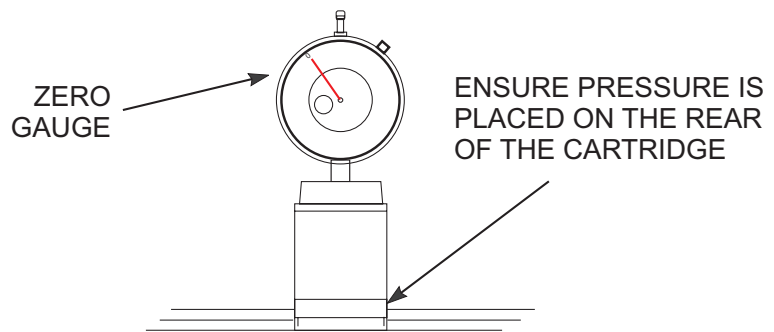

Figure 3-15. Zeroing the Micrometer Gauge.
3. Place the test cartridge upright on a flat surface and 'zero' the gauge by loosening the knob near the top and turning the dial until the needle is at the '0' position on the dial. Tighten the knob. See Figure 3-15.